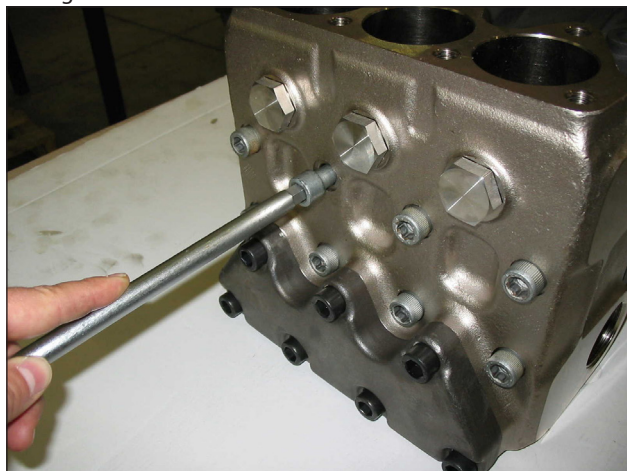

Fig. 21
A) Unscrew the M12x150 head fixing screws as indicated in Fig. 21.